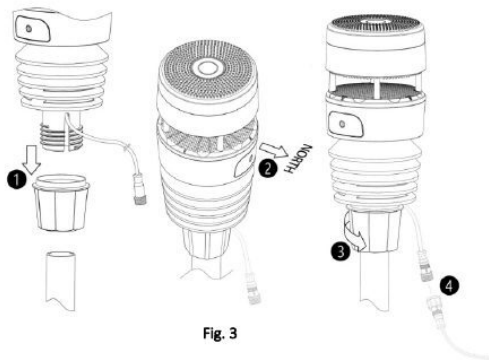

Fig. 3
1. Mount the Device onto the pole as shown in Fig. 3